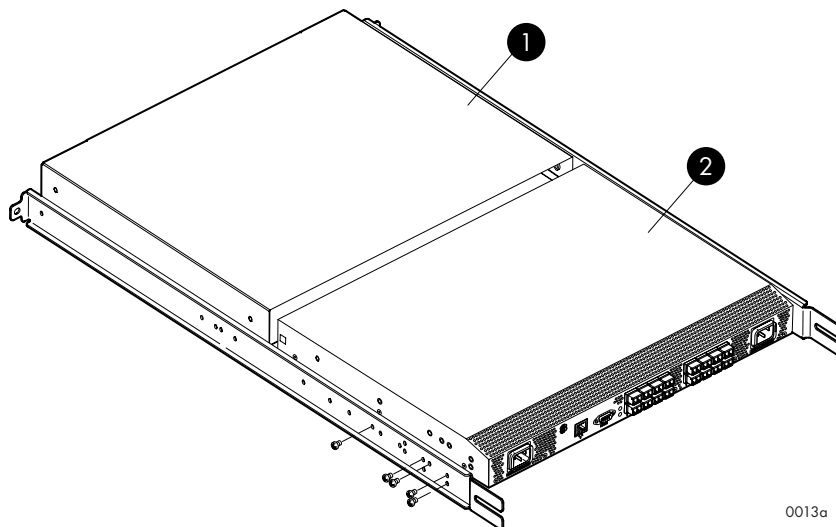

Figure 11: Assembling the inner rails on a SAN Switch with plenum
- b. For the SAN Switch 2/8V, assemble the two inner rails (one on each side) to the switch and plenum using the appropriate number (from step 5 on page 42) of #8-32 x 5/16-inch Phillips pan-head SEMS screws as shown in Figure 11.
The components in Figure 11 include: